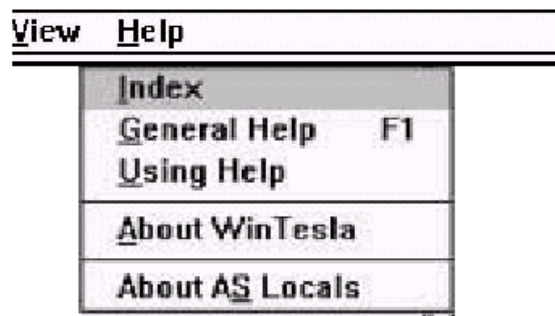

Figure 2. Menu bar
When DLL's are active, the menu bar contains several items, including help texts, as shown in Figure 2.
2. Set Bus Configuration for WinTesla according to Figure 2 below: